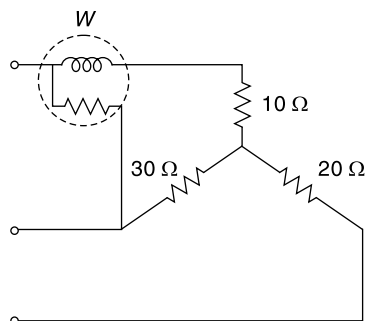

Fig. 7.36
8. In the network shown in Fig. 7.36 three resistors are connected in star to a three-phase supply of 400 V. The wattmeter *W* is connected as shown. Calculate the currents in the three lines and the readings of the wattmeter.